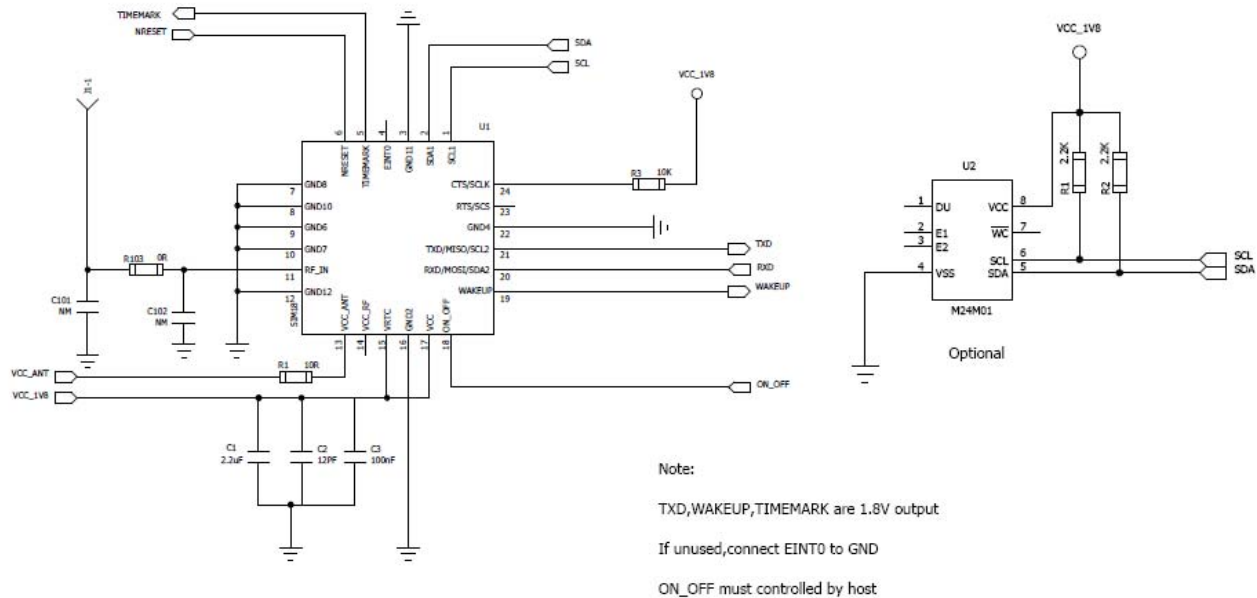

Figure 13: Example application schematic with UART
- 3) *It is recommended to add a 10 Ω resistor(R1 in Figure13) in VCC_ANT pin.*